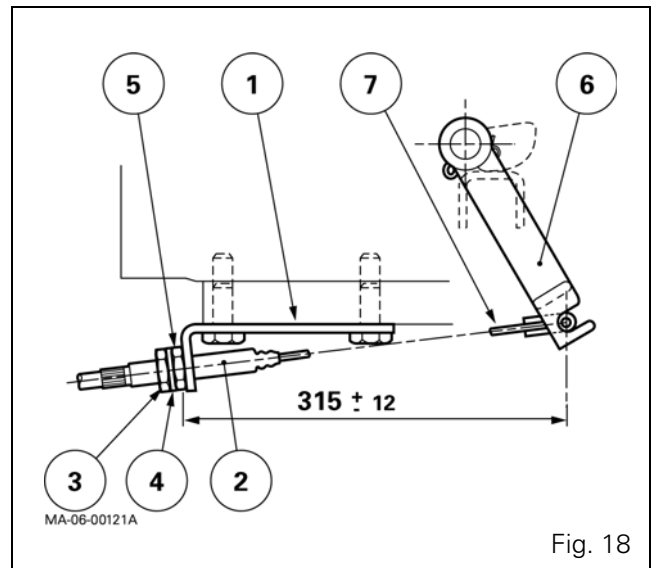

Fig. 18
Note: For correct alignment and movement of the sheath end (2) and cable (7), the nut (5) and locknut (3) are fitted in front of the bracket (1) (Fig. 18).